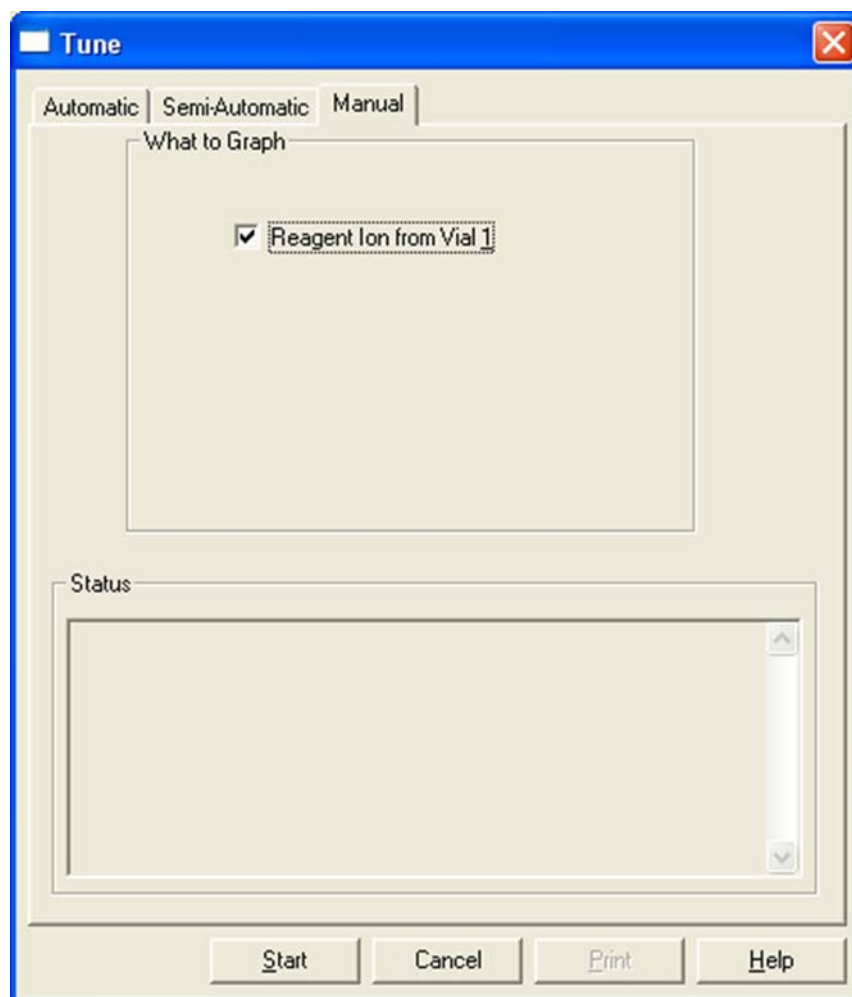

Figure 7-14. Reagent Ion Source Tune dialog box – Manual page
- Click the **Manual** tab in the Tune dialog box if the Manual page is not already visible. (See Figure 7-14 on page 7-16.)